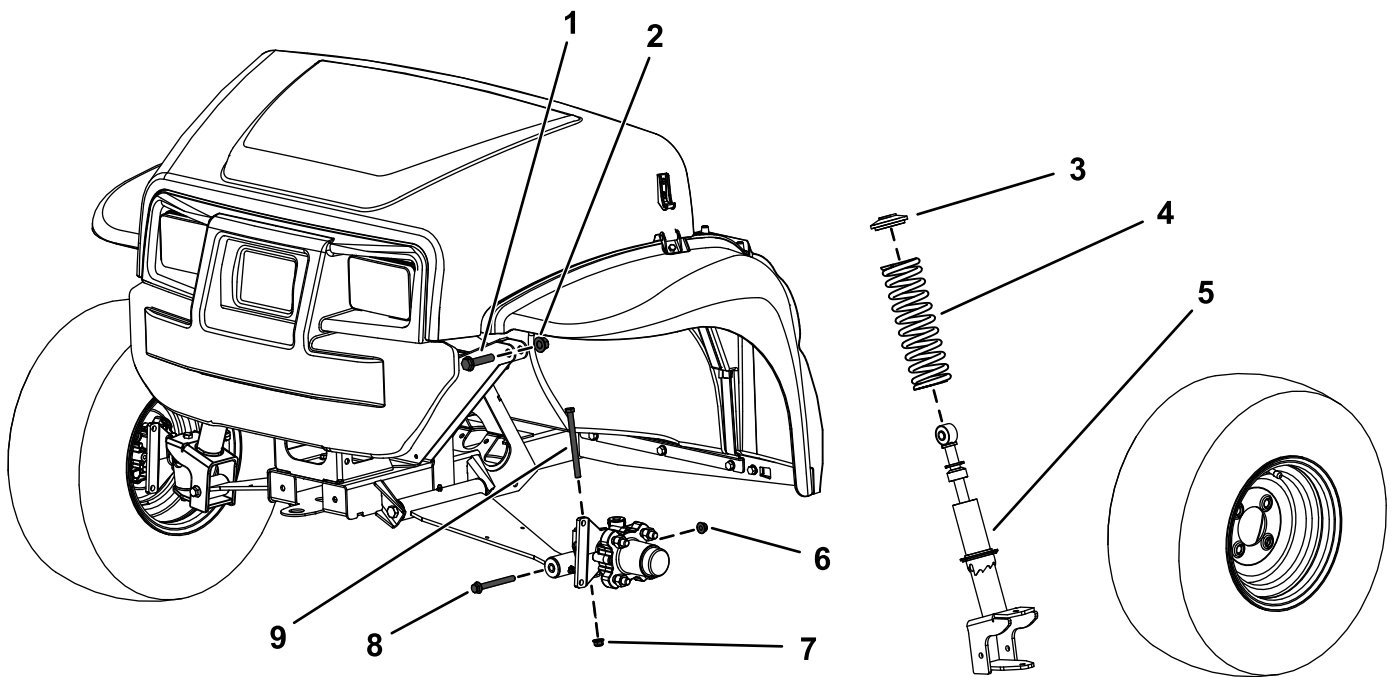

Figure 1
2. Remove the hex-head bolt ($3/8 \times 4-3/4$ inches) and flange nut ($3/8$ inch) from the spindle (Figure 1).
3. Remove the hex-head bolt ($3/8 \times 3-1/2$ inches) and flange nut ($3/8$ inch) from the control arm (Figure 1).
4. Remove the hex-head bolt ($1/2 \times 2-1/4$ inches) and locknut ($1/2$ inch) securing the strut assembly to the upper frame (Figure 1).
5. Remove the strut assembly (Figure 1).
3. Remove the spring from the strut assembly (Figure 1).
4. Install the new spring over the existing strut assembly (Figure 1).
2. Secure the upper portion of the strut assembly to the frame using the upper, hex-head bolt (1/2 x 2-1/4 inches) and locknut (1/2 inch) as shown in Figure 1.
4. Install the hex-head bolt (3/8 x 4-3/4 inches) and flange nut (3/8 inch) to the spindle (Figure 1).
6. Secure the lower portion of the strut assembly to the control arm using the hex-head bolt (3/8 x 3-1/2 inches) and flange nut (3/8 inch) as shown in Figure 1.